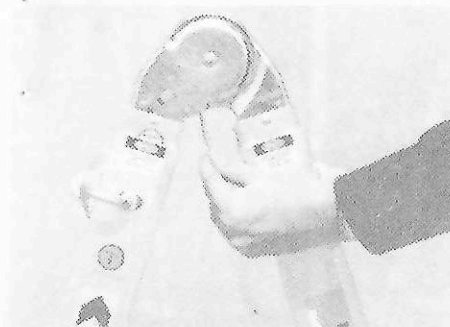

Figure A-7
2. Now place the ladder into the extension position by first pushing in the hinge release levers located under each hinge. (FIGURE A-7). Rotate either side of the ladder until the hinges lock in to the extension ladder position (FIGURE A-8).
- b. Push each hinge release lever and rotate either side of the ladder until the hinges lock into the extension ladder position. (FIGURE A-7 and A-8).